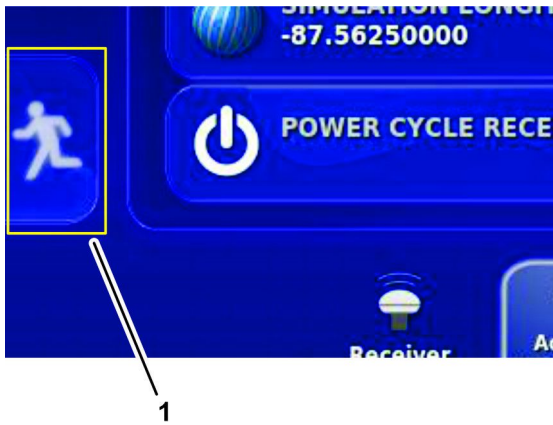

Figure 129
5. Press the EXIT SETUP icon (Figure 129).